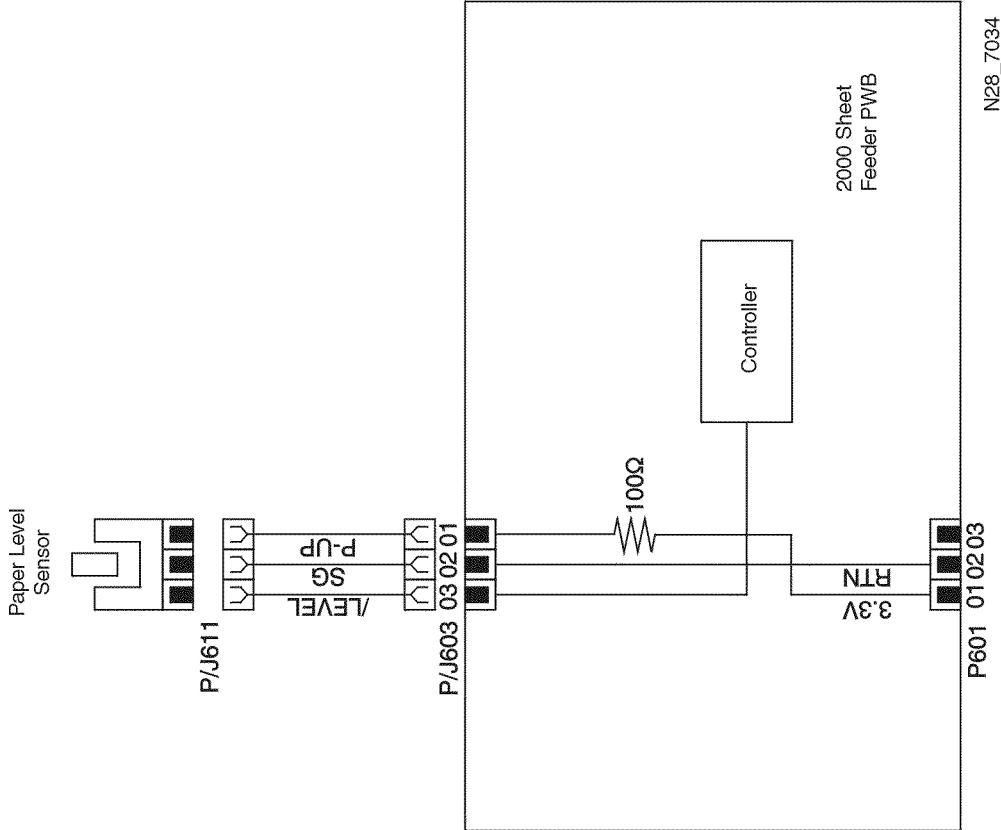

Figure 5 2000 Sheet Feeder PWB/Photo Sensor
50. 2000 Sheet Feeder PWB <--> Low Paper Sensor Figure 5, Table 4